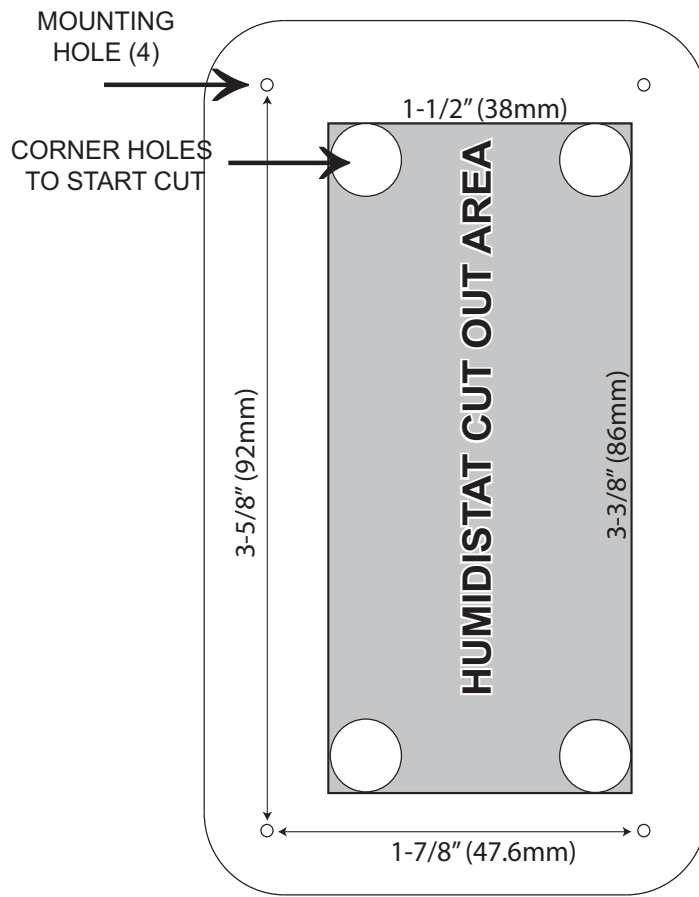

Fig. 3 - Duct-Mount Template
4. Using the mounting template (Fig. 3) on Pg. 3, drill the four mounting holes using a 5/64" (2mm) drill bit. Next drill the holes for the Humidistat Cutout Area using a 3/8" (10mm) drill bit. Finally, drill the hole for the wire leads using a 1/4" (7mm) drill bit.